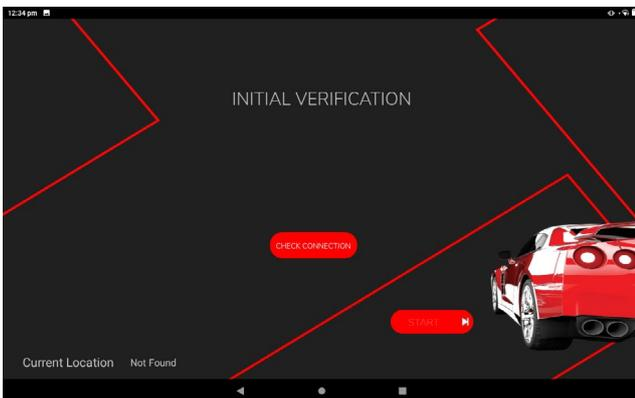
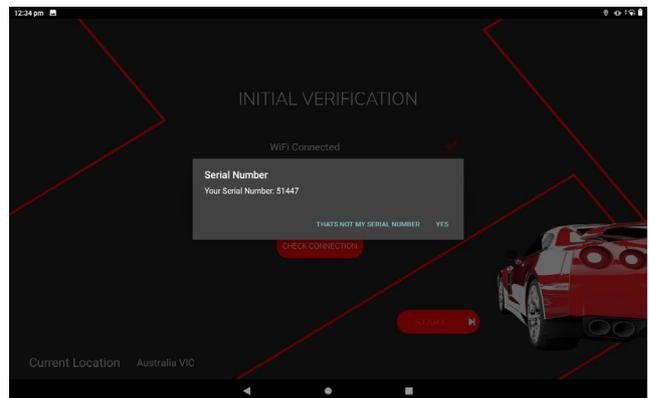

Figure 8
Figure 9
Step 6 : Press "Check Connection" to verify your serial number (Figure 8). If verified, press "Yes." (Figure 9). If the serial number doesn't match, please contact Autotest Products.